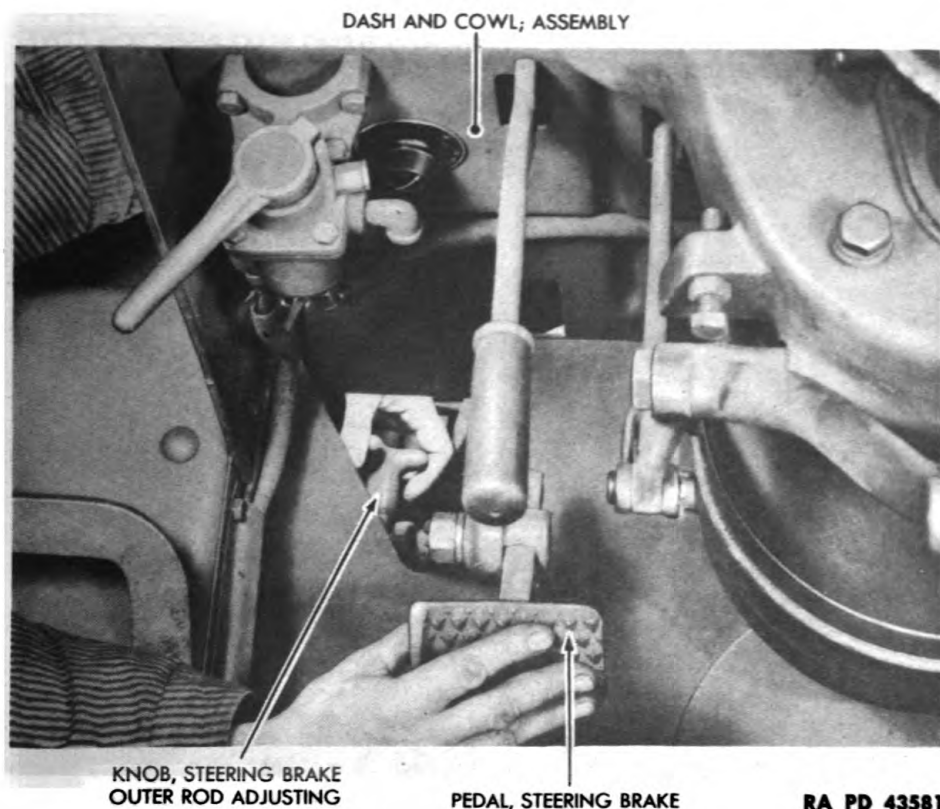

Figure 79 — Steering Brake Control, Adjustment
(1) ADJUST STEERING BRAKE OUTER ROD ADJUSTING KNOB (fig. 79).
(3) ADJUST OTHER STEERING BRAKE CONTROLS IN SAME MANNER (figs. 79 and 80).